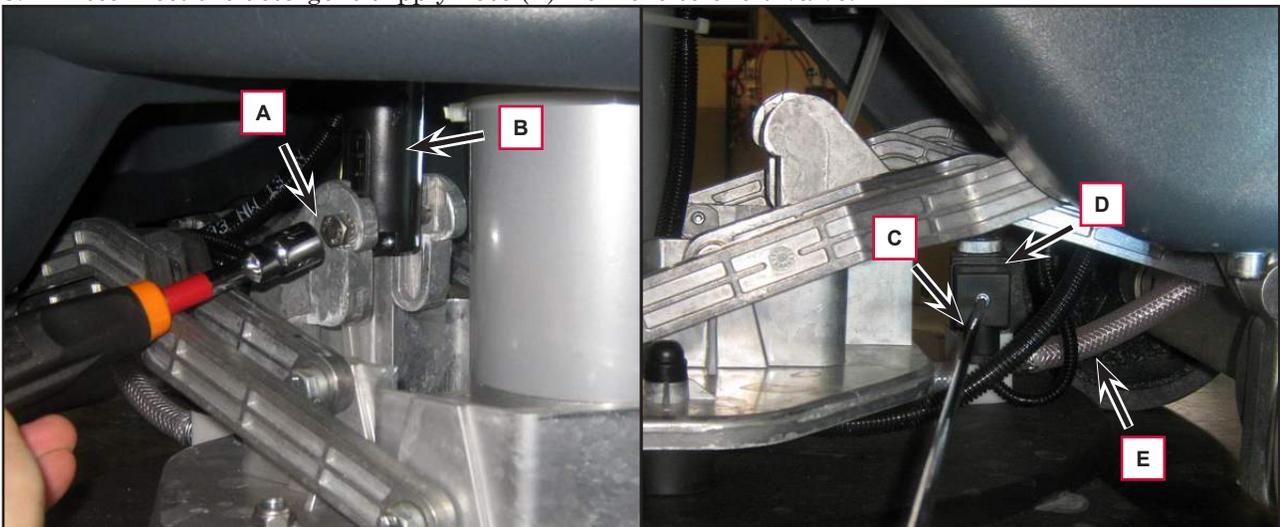

Figure 7
6. Undo the screw (A) (Figure 7) on the pin of the actuator (B); retain the bushing.
7. Unscrew and disconnect the connection (C) on the solenoid valve (D).
8. Disconnect the detergent supply hose (E) from the solenoid valve.